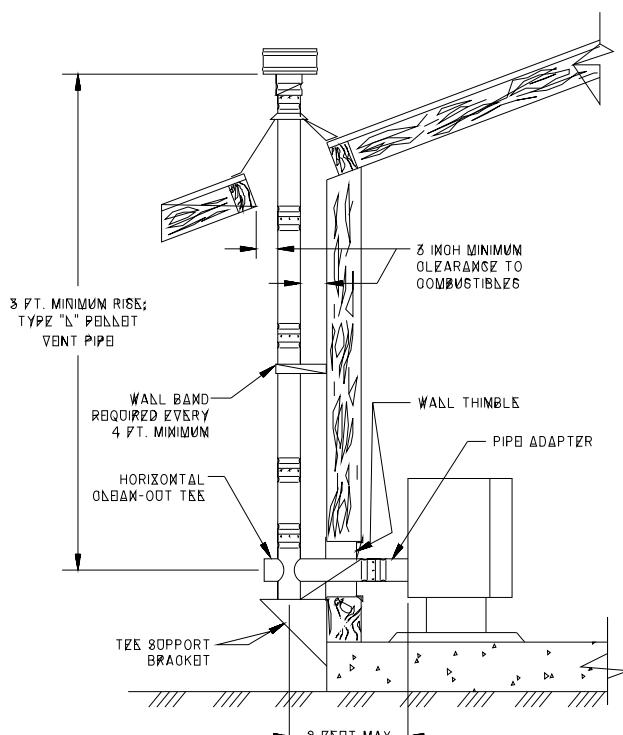

Figure 4
- When exiting through the wall with your type L Pellet vent pipe, you may go straight out through a wall thimble. You must connect a pellet vent tee at this point and extend the vent pipe at least 3' (three feet) vertically outside to provide good draft and allow the gases to exit. The tee must have a clean out cap for inspection and regular cleaning (**Figure 4**). Horizontal runs must be limited to 2' (two feet). A wall band is required for every 4' (four feet) minimum on a vertical run at an exterior wall.